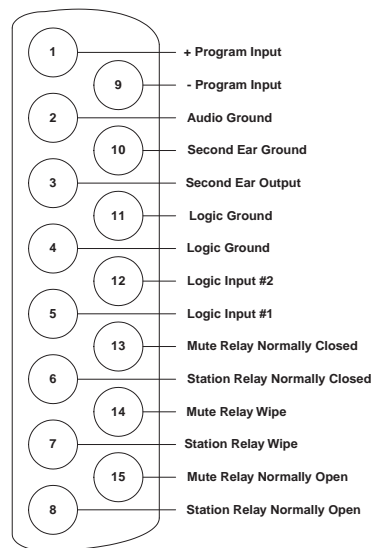

FIGURE S5-4: Miscellaneous Connector Pinout
2. Connect a shield or ground connection if available to the connector’s pin 2 (see Figure S5-4 on page S5-5).
Use normally open type switches to activate the logic inputs. Connect the switches as follows (Figure S5-4 on page S5-5):
The mute relay is activated whenever any talk selector is activated at the station. The mute relay is commonly wired such that whenever it is activated, the volume of the monitor speaker in that room is decreased (muted). See Figure S5-4 on page S5-5.
The relay can activate an external device, such as an applause light in a studio, a cue light, or a security door lock. Any programmable relay in the system can be activated from any station in the system, including a direct-inward-access caller. Figure S5-4 on page S5-5 shows the wiring of the relay contacts to the Miscellaneous connector.